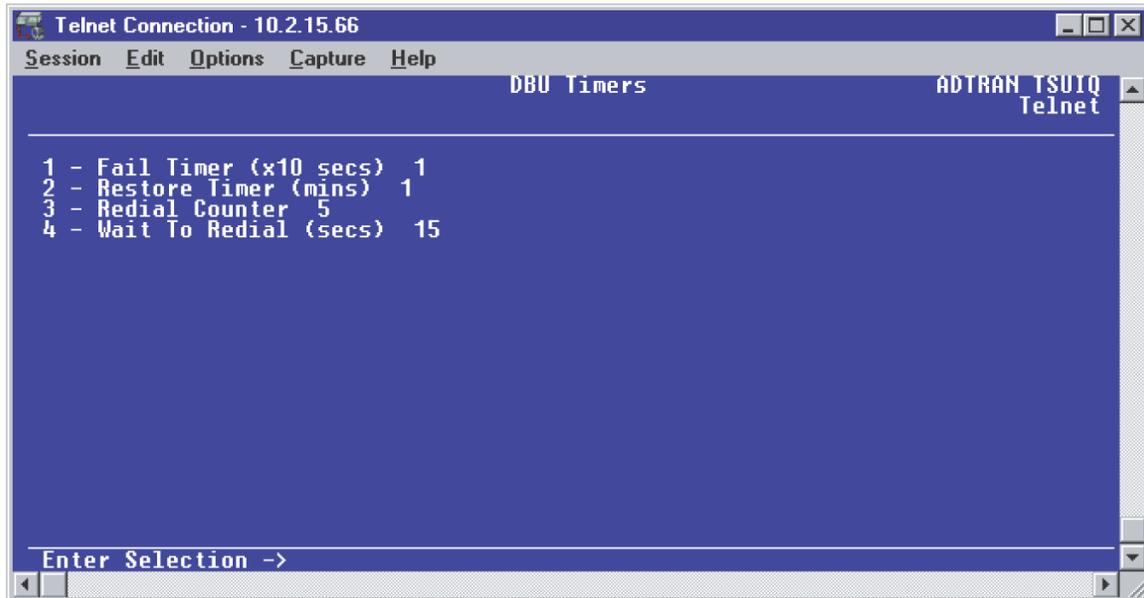

Figure 26. DBU Timers Menu
1. Press **<ESCAPE>** once to get back to the **CONFIGURE DIAL BACKUP** screen shown in Figure 22. Select option 4, **DBU TIMERS** and press **<ENTER>**. The menu screen shown in Figure 26 is displayed. The default values for the parameters on this screen are shown.